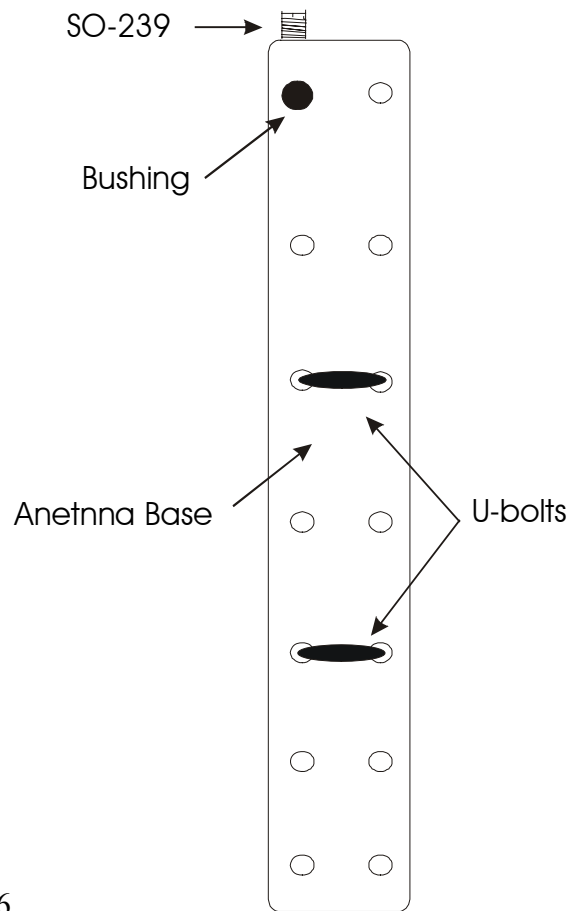

Figure 6
- [] 2. The SO-239 connector, supplied with the base, should then be installed on the top of the base plate mount as indicated in Figure 6 using two 6/32" x 3/8" screws and kep nuts supplied with the base. One of the feed-points at the bottom of the base may also be used. The insulated wire supplied with the MFJ-1904 will be long enough for this application. This will increase the radiating length of the antenna.